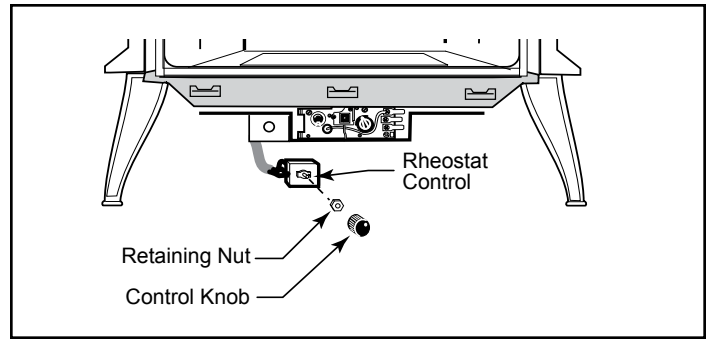
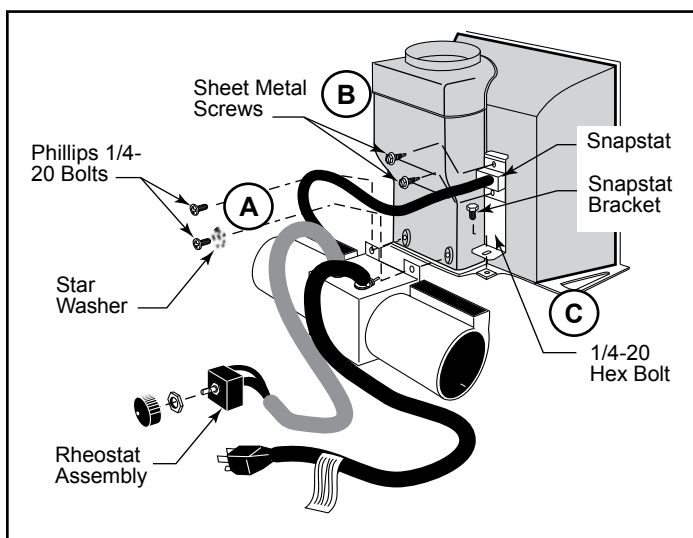

**Figure 40** - Remove rear skirt panel.
Figure 44 - Attach fan assembly and snapstat.
1. Remove the panel at the bottom of the rear skirt (Figure 40) and remove two (2) Phillips head bolts from the bottom of the firebox back. Fasten the blower assembly to the firebox back with two (2) Phillips head bolts and one (1) 1/4" star washer. ('A', Figure 44)
2. Attach the snapstat assembly to the snapstat bracket with two (2) sheet metal screws. ('B', Figure 44) Attach the snapstat bracket to the stove with a hex head bolt passing through the bracket and into the stove base. ('C', Figure 44)